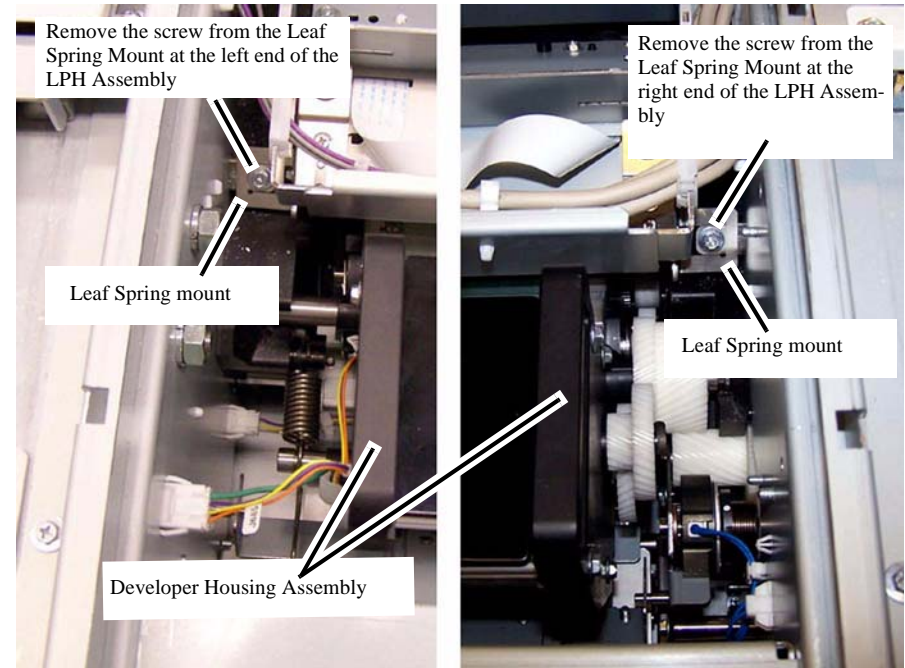

Figure 1 LPH Assembly retaining screws and Leaf Spring Mounts
- a. Remove the screw from both the left hand and from the right hand Leaf Spring Mount (Figure 1).